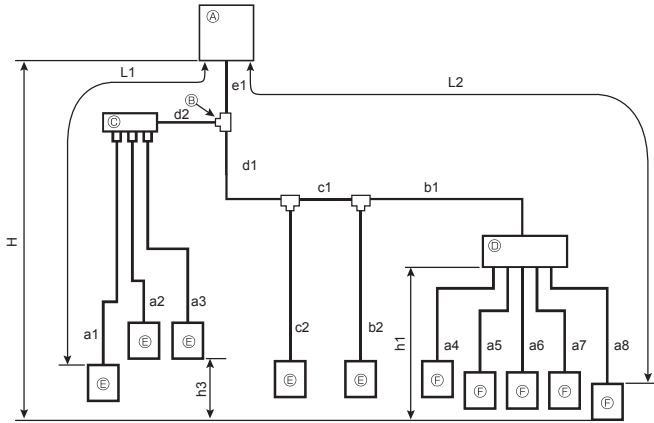

Fig. 4-3 (a)
4.2.3. Mixed system (City Multi indoor units and M, S, P series indoor units via Branch box) (Fig. 4-3)